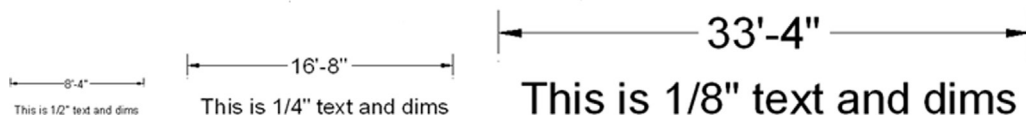

FIGURE 10.29 $\frac{1}{2}"$, $\frac{1}{4}"$, and $\frac{1}{8}"$ text and dimensions.
Step 3. One by one, in Model Space, set each text and dimension style as current and create one set of text and one set of random dimensions next to each other, as shown in Fig. 10.29.
Notice the complete uniformity of the text and dims in Paper Space, as opposed to how they looked in Model Space in Fig. 10.29. This is the essence of what we are doing here. If you can set up these three viewports and all the text and dims correctly, you can do any drawing. Be sure to review and learn everything thus far presented. Ask your instructor for assistance if needed.